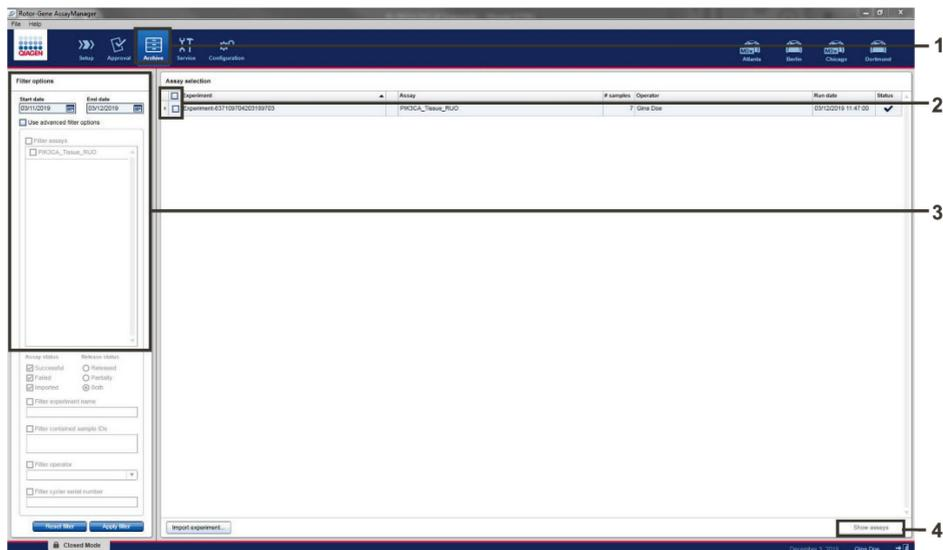

Figure 19. Example of “Experiment Archive” main window. 1 = “Archive” tab, 2 = Search options, 3 = Selecting experiment name, 4 = “Show assays” tab.
26. To view an experiment stored in the experiment archive, click **Archive** and search for the experiment using the search criteria in the “Filter Options” section. Click **Apply filter** to search. Select an experiment by checking the box next to the experiment you would like to view, and click **Show assays** (Figure 19).